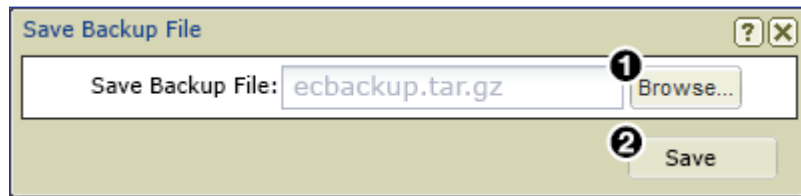

Figure 176. Save Backup File Dialog
4. Browse to the folder where the backup file is to be saved (see figure 176, ❶).